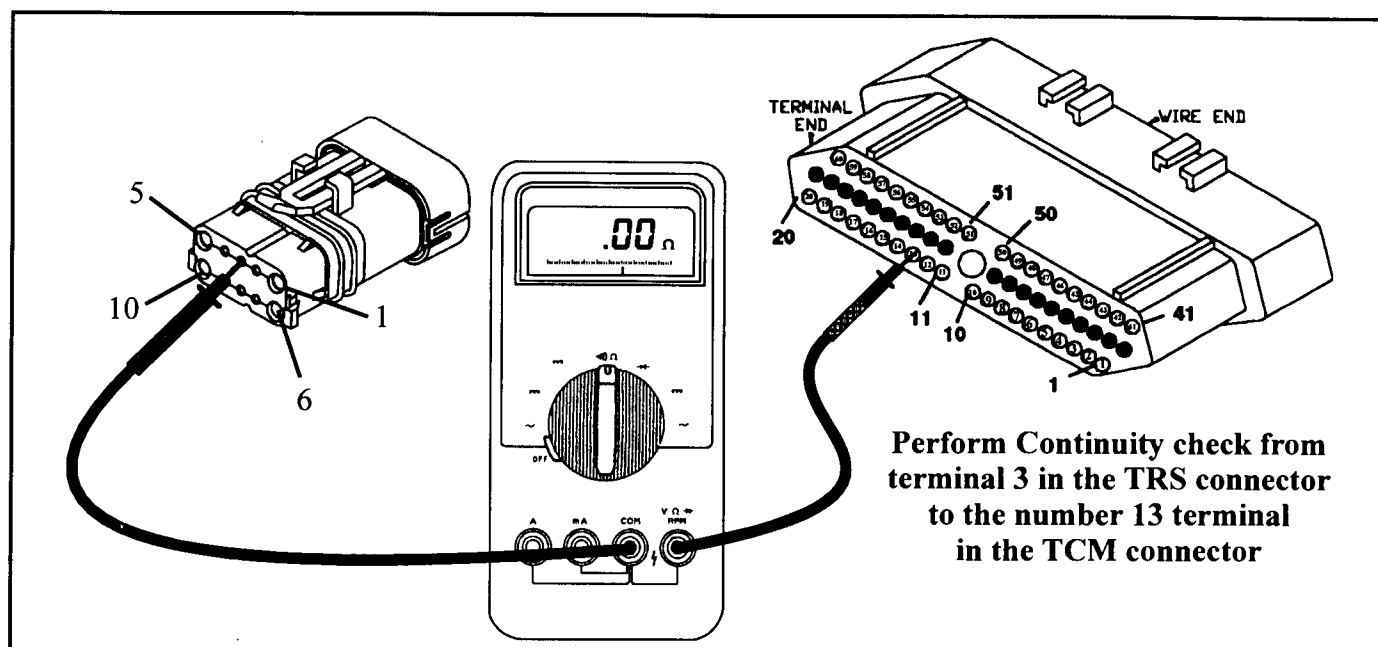

Figure 75
- Perform a continuity check on the TFT's ground wire by placing one meter lead to terminal 3 in the TRS connector and terminal 13 in the TCM as shown in Figure 75. If continuity is seen, go to the next step. If continuity is not seen, repair or replace wire. If the wire is to be replaced, the turbine and output RPM sensor also uses this wire for ground. Be sure to include them in the new wire (See Page 74).